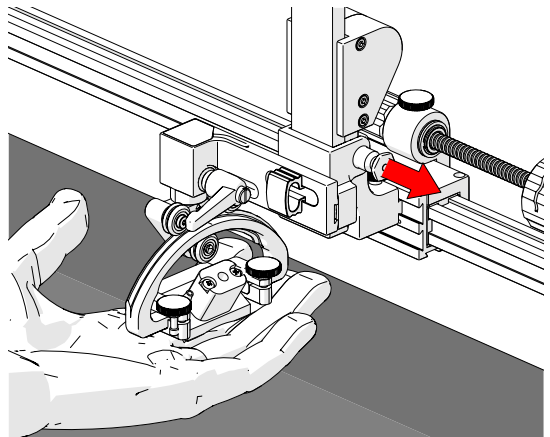
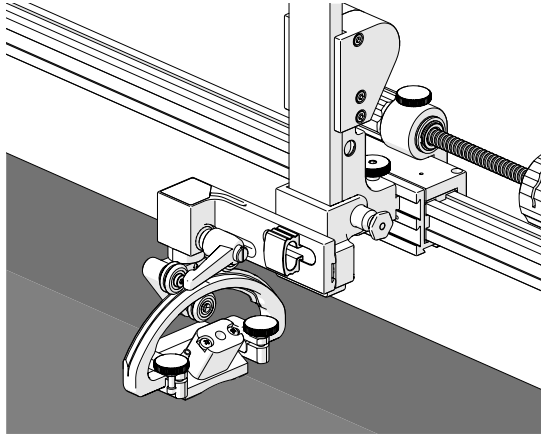

Fig. 232 - Pull latch pin
Fig. 233 - Lower probe to inspection surface
2. Pull the latch pin (Fig. 232) and slowly lower the probe holder to the scan surface (Fig. 233).